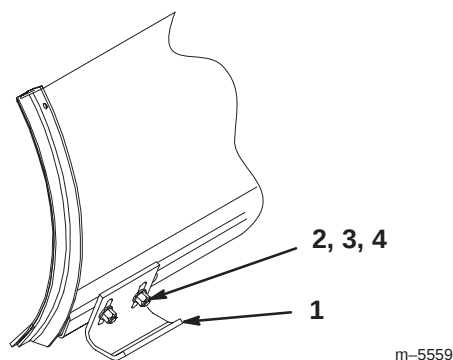

Figure 5
4. Attach the skids to both sides of the blade with 4 carriage bolts (3/8 x 1 inch), flat washers (3/8 inch), and locknuts (3/8 inch) (Fig. 5).